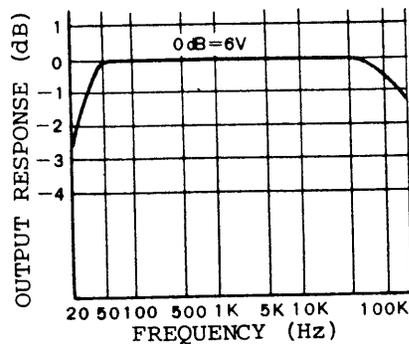

Fig. 5. Frequency characteristic.
- Set model 3050 output voltage of 1V at 1kHz and apply the output of model 3050 to the amplifier under test. This will provide an output voltage of 6V as shown in Fig. 5.
- Figure 5 shows an example of the output versus frequency characteristic of an amplifier obtained as mentioned above.